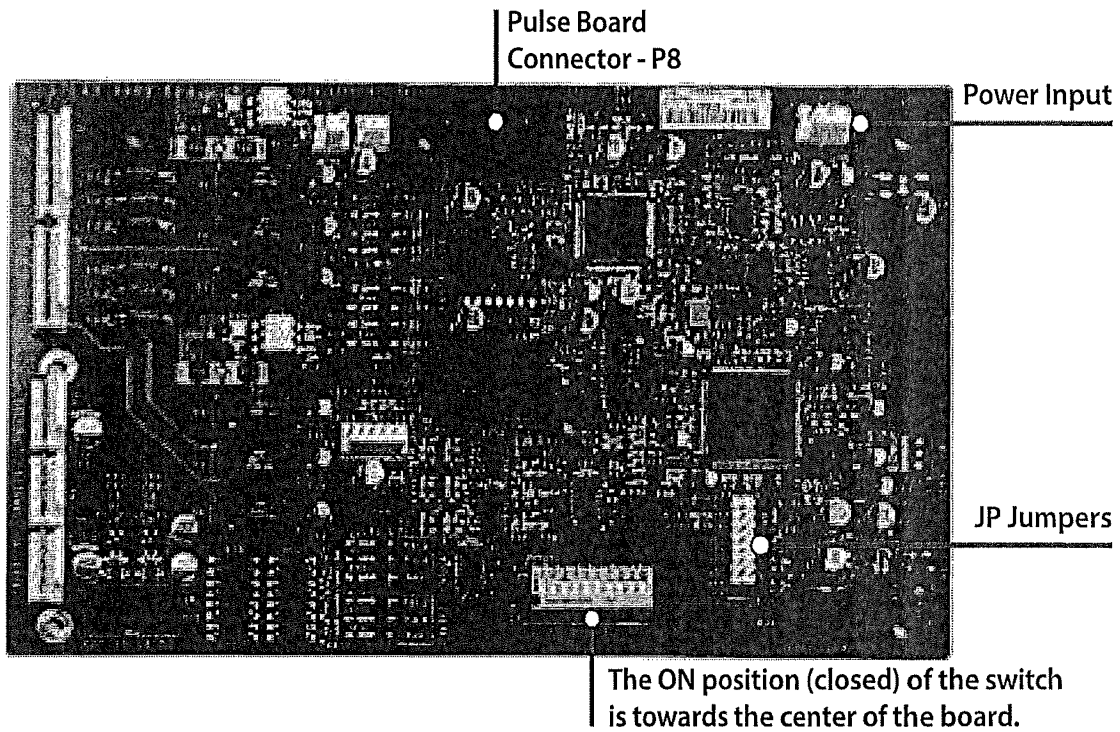

Figure 30. New Atlas 9800 CPU With 10-Position DIP Switch
**NOTE:** Older Atlas CPU boards have two DIP switches instead of the 10 position DIP switch as shown in Figure 30: